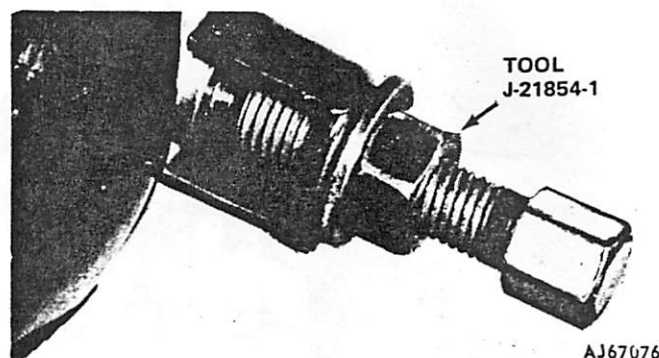

Fig. 2J-36 Pivot Pin Removal
(24) Remove shift quadrant mounting bracket and light socket.
(25) Remove tilt lever.
(26) Remove cover retaining screws and remove cover from column.
(27) Remove lock sector tension spring retaining screw. Unhook spring from lock sector shaft and remove spring.
(28) Remove snap ring from lock sector shaft and remove lock sector, sector shaft, and retaining ring.
(29) Install tilt lever and place upper housing in full upward tilt position.
(30) Insert screwdriver in tilt spring retainer slot and compress retainer approximately 3/16 inch (4.7 mm). Rotate retainer 1/8 turn counterclockwise and remove retainer and spring.
(31) Place housing in center (nontilt) position.
(32) Remove housing pivot pins using tool J-21854-1 (fig. 2J-36).
(33) Lift tilt lever to disengage lock shoes and remove housing. Remove both ball bearing assemblies from housing if bearings are to be replaced.
(34) Remove tilt lever.
(35) Remove release lever pin from housing using pin punch or tool J-22635 (fig. 2J-37).